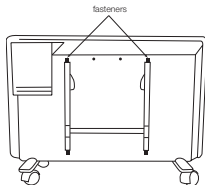

Figure 4
- press the latches and pull the bracket pushing two latches (Fig. 4);
It is not difficult to clean of the place behind the heater mounted on the wall. Press two latches (Fig. 4) on the rear panel of the heater and pull the heater forward. The heater is removed it is possible to wash the wall.